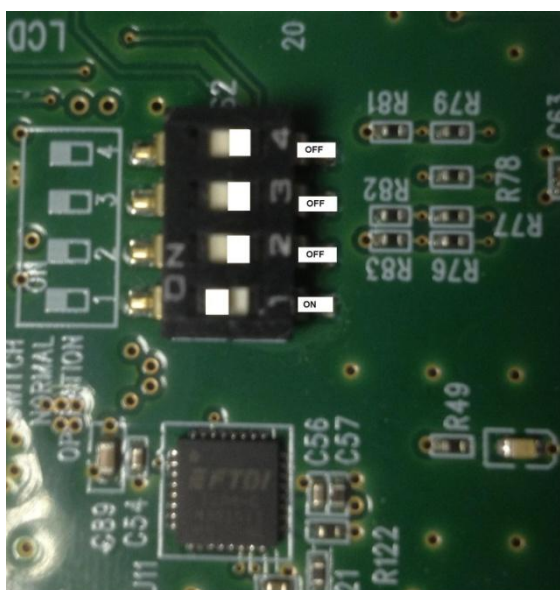

Figure 46 Debug Mode
- Ensure the Dipswitches are as per (Figure 46)